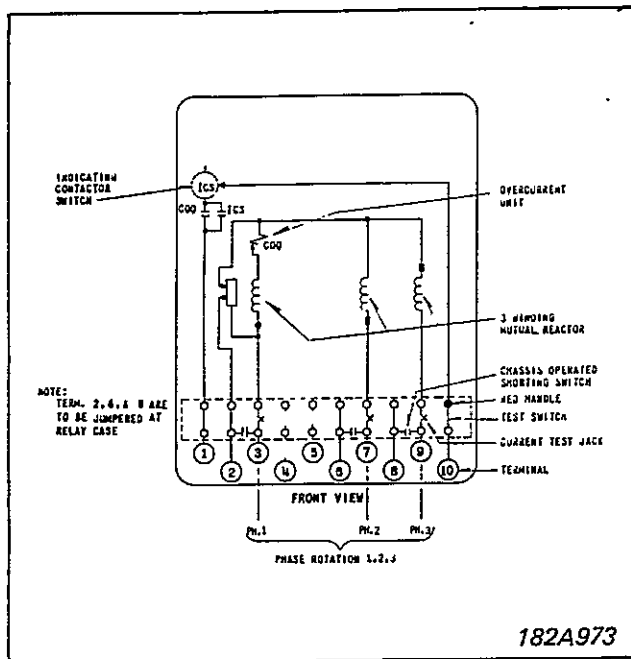
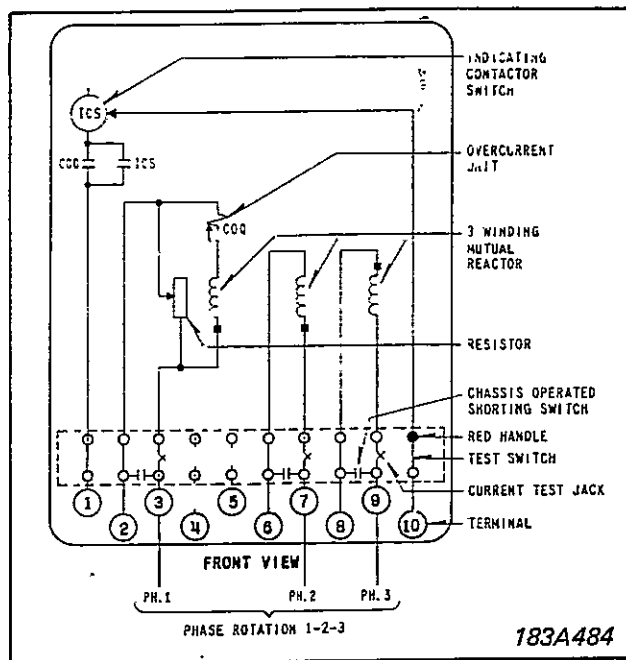

Fig. 2. Internal Schematic of the Type COQ Relay in the FT21 Case - Neutral Formed in Relay
Fig. 3. Internal Schematic of the Type COQ Relay in the FT21 Case - For Forming Neutral External to Relay
The COQ is used to prevent a synchronous machine from being damaged due to negative sequence fault currents. Two varieties are available, as shown in Figs. 2 and 3, depending upon whether the neutral can be formed at the COQ or whether the neutral must be formed elsewhere. (See external schematic, Figs. 8 and 9.)
- Now measure the voltage across the resistor. Adjust top filter resistor position until this voltage is 1.73 times the reading from (d) above. (For relays wired per Fig. 2 connect the voltmeter to switch jaw 3 and to the top filter resistor screw connection (see Fig. 1). (For relays wired per Fig. 3 connect voltmeter across switch jaws 2 and 3.)
To eliminate zero sequence response (relays wired per Fig. 2 only), remove tap screw, and connect per Fig. 10: Apply  $I_x = 5$  amperes;  $I_y = 10$  amperes. Measure voltage from terminal 3 to top filter resistor screw connection (see Fig. 1). Adjust the neutral filter resistor tap until measured voltage is zero.